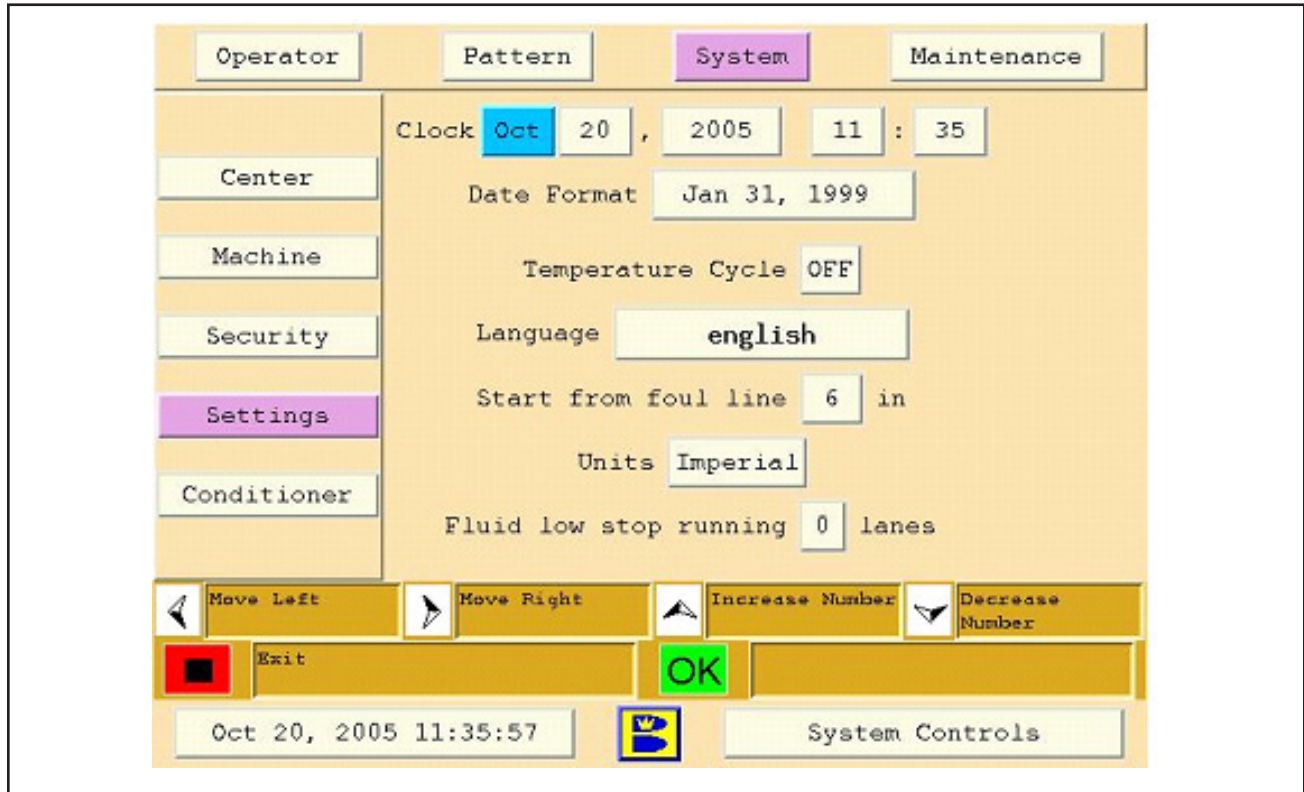

Figure 4-21. System Settings
The system settings are used to set clock functions like the date and time, date format (MM/DD/YY or DD/MM/YY). The Temperature Cycle allows the user to enable or disable the oil heating function (we recommend this feature to be “on”) during which the conditioning system cycles conditioner and steadily heats it to 80° Fahrenheit (~26° Centigrade). Operators may choose the language they prefer. The default start distance from the foul line must be selected, so no pattern may be set to apply conditioner between this setting and the foul line. The operator can change their Units of measure from Imperial (US) to Metric (International), and the number of lanes they wish to be able to run after the first low fluid level message appears. Refer to Figure 4-21.